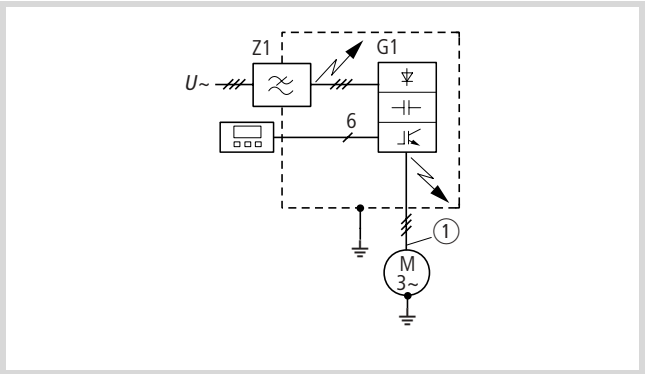

Figure 10: DF5 and radio interference filters in an insulated metal enclosure
① Screened motor cable
- Earth the metallic enclosure using a cable which is as short as possible (→ Fig. 10).